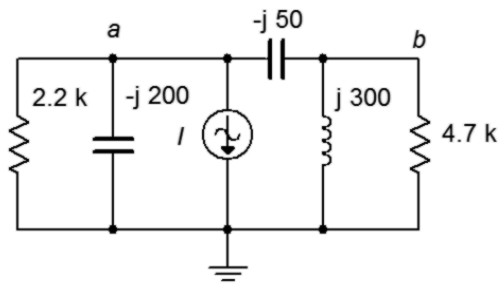

Figure 4.16
25. For the circuit of Figure 4.16, determine voltages v_a and v_b . $I = 25$ mA.
26. For the circuit of Figure 4.16, determine the currents through the two capacitors.